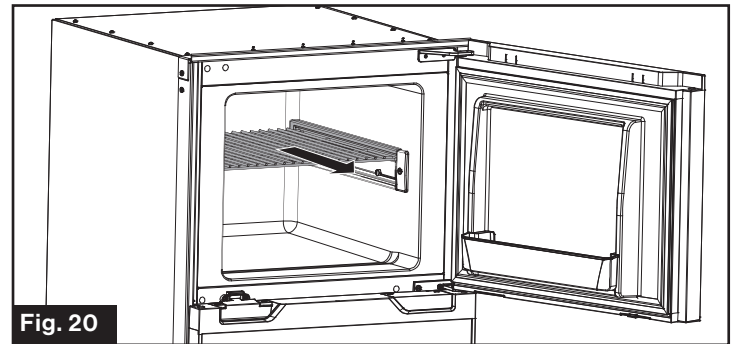

Fig. 20
4. Repeat steps 2 and 3 to loosen the shelf fixing screw on the other side. Pull to remove the shelf out from its original position. (Fig. 20)